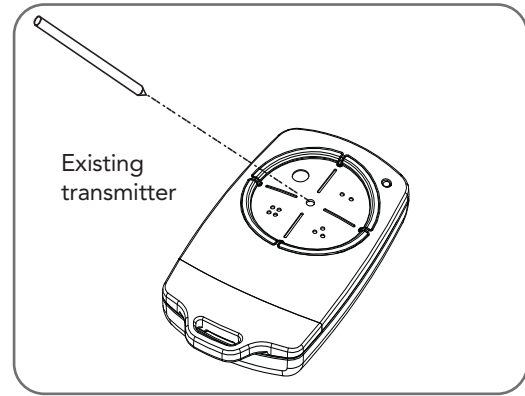

Fig.6.7.4
- Use a small pin / pen to press and hold through the Coding Hole of the existing Remote Control Transmitter for 2 seconds (**Fig. 6.7.4**).